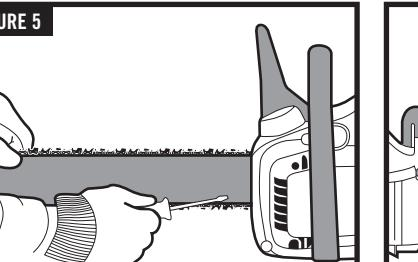

FIGURE 5
1. Hold the nose of the bar up and turn adjustment screw CLOCKWISE to increase chain tension. Always maintain a snug fit all the way around the cutting bar (Figure 5). See Figure 4 for correct chain tension.